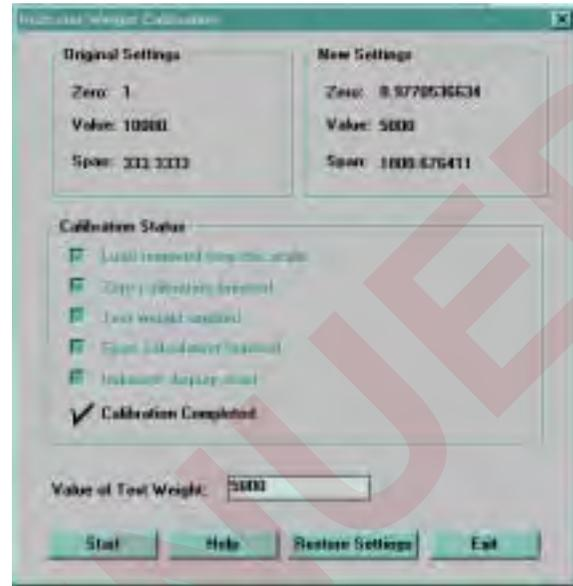

Figure 4-3. Indicator Weight Calibration Display
6. When calibration is complete, the *New Settings* fields of the Indicator Calibration display are filled in (see Figure 4-3). Click *Exit* to save the new values and return to the Revolution main menu; to restore the previous calibration values, click *Restore Settings*.